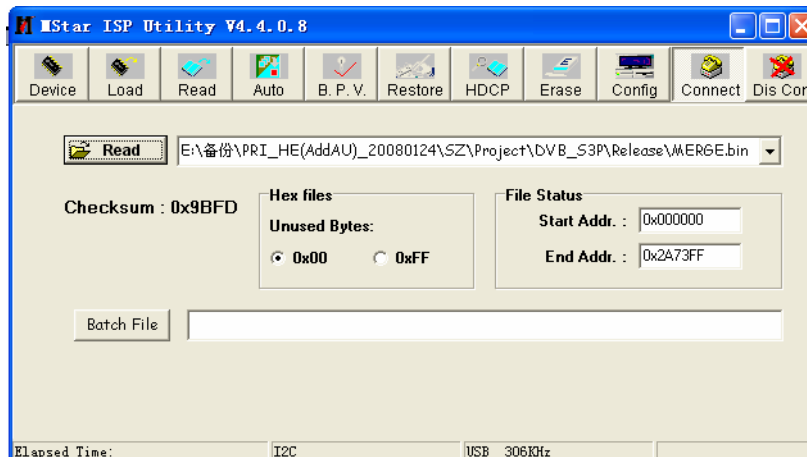

Fig. 4 Burning file
- 4) Press key “**Read**”, select burning file (for example **MERGE.bin**) as **Fig. 4**.
- 6) Press key “**Run**” as **Fig. 4** to begin burning software, there are two steps for the process: **Erase** and **Program**